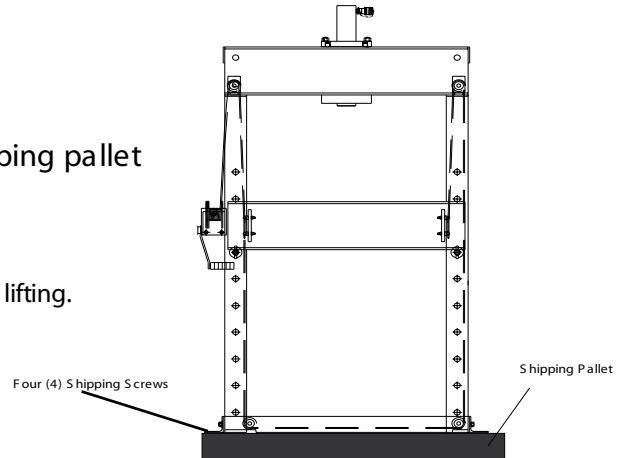

Figure 1
- Remove 4 bolts from H-Frame base that secure frame to shipping pallet (Figure 1).